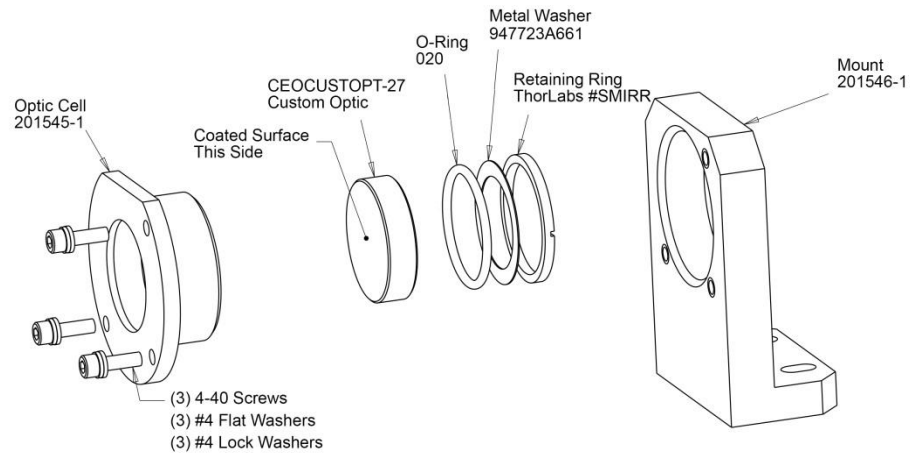

Figure 2-6: Optical Mount (MM64), Exploded View
1. Remove the optic assembly from the mount by removing the (3) 4-40 screws, flat washers, and lock washers.
4. Place the new optic in the cell with the coated surface oriented as shown in **Figure 2-6**. Install the o-ring, the metal washer, and the retaining ring. Hold the optic assembly with the retaining ring on the bottom side. Hand-tighten the retaining ring using the spanner wrench.
5. Place the optic assembly into the mount and replace the (3) 4-40 screws, flat washers, and lock washers. Torque to 5.5 in-lbs.